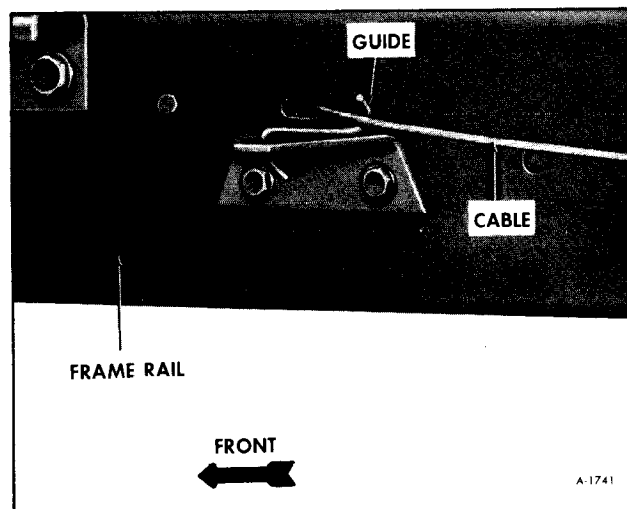

Figure 27—Cable Guide on Frame Rail
5. Disconnect cable from guides at points where cable passes through frame rails as shown in Figure 27.